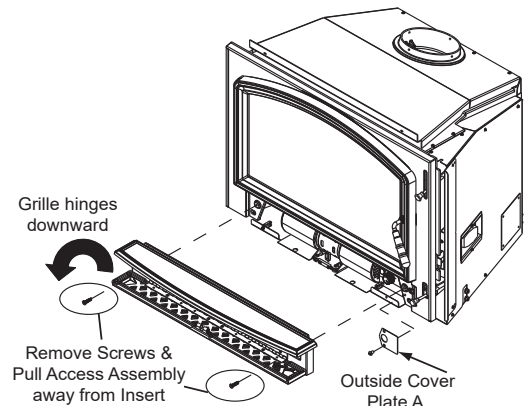

Figure 18.1
1. Swing grille down to expose the two screws **Figure 18.1**.